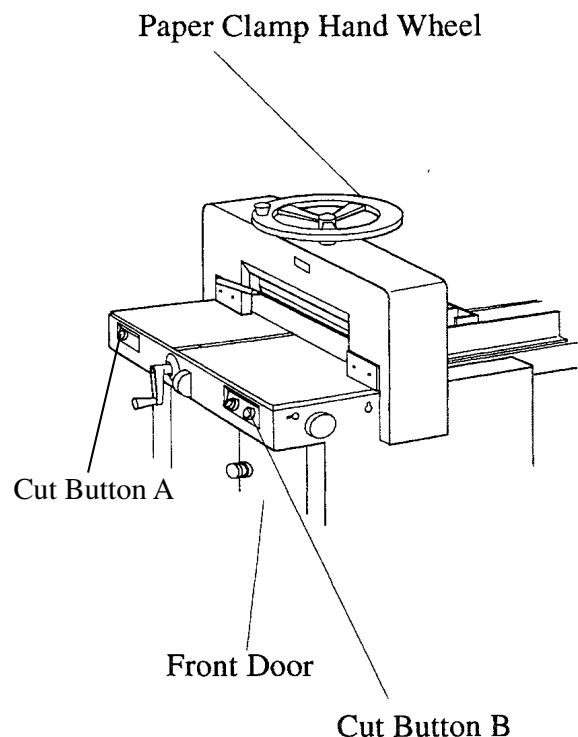

Fig. 4-1
- Turn paper clamp hand wheel (Fig. 4-1) clockwise until clamp is fully down.
- Using cut buttons A and B (Fig. 4-1), bring knife down until all 5 knife securing bolts are accessible. Release cut buttons.